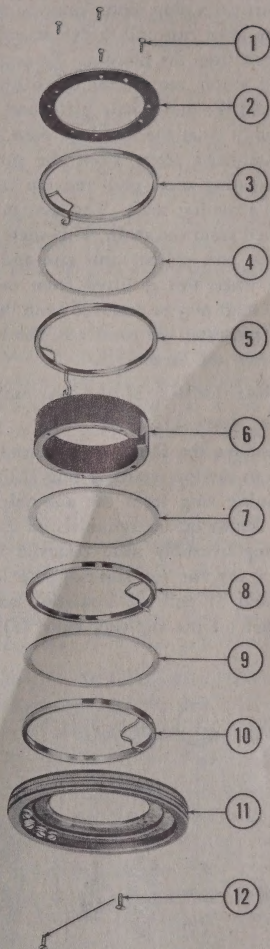

**Figure 252 — Slip Ring Assembly
(See figure 252.)
(d) (See figure 252.) Inspect all parts of the cardan slip-ring assembly for any damage which might impair its operation. Examine the base (11), drum (6), and clamp washer (2) for any cracks, or other damage. Check carefully the tapped holes in the base and the drum to see that no threads have been stripped. Examine the fiber spacers (4, 7, 9) to see that they have not become frayed; if they have, replace them. Take particular care in examining each slip-ring (3, 5, 8, 10) to make sure that the lead wires have not become loosened. These lead wires should not show any signs of excessive bending, and the connection between the lead wire and the slip-ring should be checked with an ohmmeter to make sure that the connection is good. Examine the two resistance coils that fit into the grooves of the base assembly (11); if they appear to be damaged, or bent out of shape, they should be replaced. Check the resistance of each of these resistance coils with an ohmmeter. Correct resistance value and permissible tolerance are given in the table of resistance values, figure 142A. These resistance coils are designated as R7 in the table. If resistance is found to be outside of the limits prescribed in the table, replace the coil. Coils which do not come up to this specification should be removed and replaced with new coils. Be sure that coils are firmly in place in the grooves on the base; if coils are loose, shellac them in place. Make sure that the ends of the wires are clean so that they will make proper contact under the binding-head screws at the terminals. Examine the slip-rings for corrosion; if they are not clean and bright, polish them with a very fine, abrasive polishing cloth.